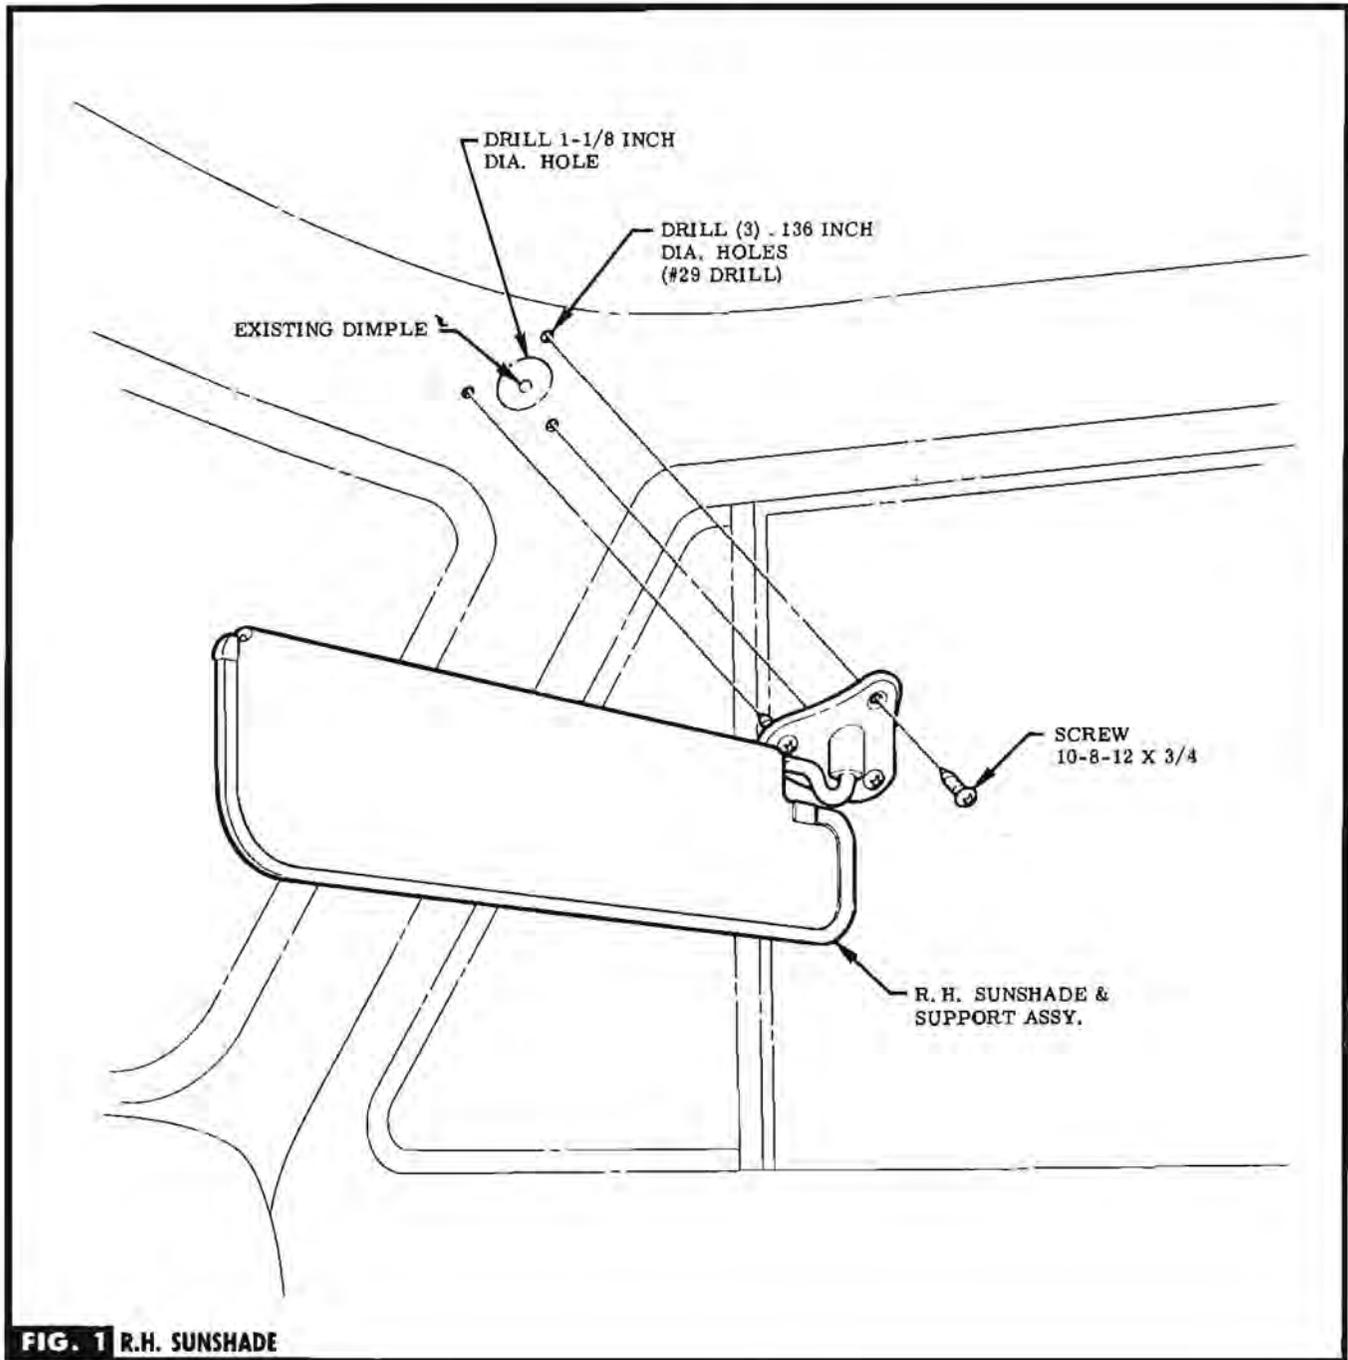

FIG. 1 R.H. SUNSHADE
STEP 1 LOCATE EXISTING DIMPLE & DRILL LARGE HOLE IN TRIM PANEL. SEE FIG. 1.
STEP 2 INSERT SUNSHADE & SUPPORT INTO HOLE & LINE UP WITH TOP OF WINDSHIELD OPENING & L. H. SUNSHADE. SEE FIG. 1. **CAUTION** Be sure bracket is located sym-